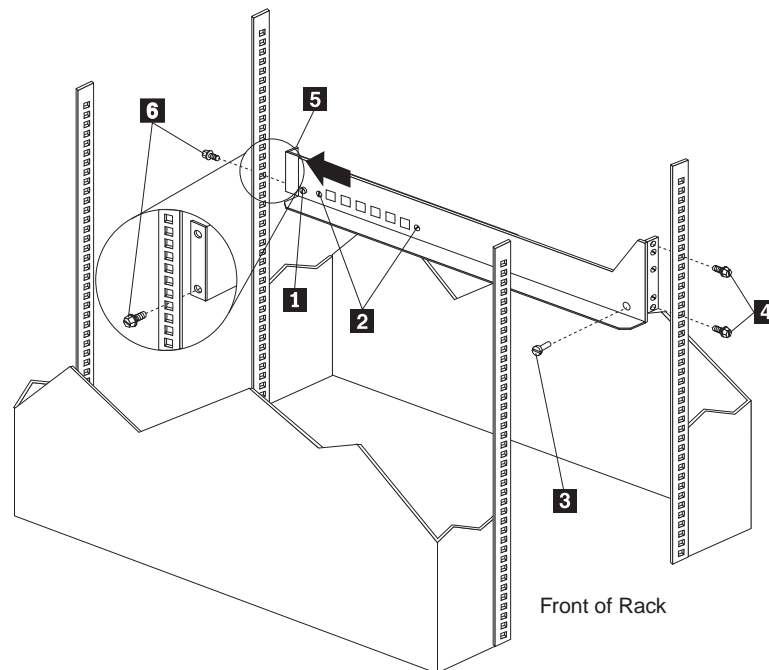

Figure 4. Aligning the front of the rails to the rack
- g. Slide the rear rail assembly **5** (shown in Figure 4) toward you until it makes contact with the rack.
- h. Install two of the hex-head screws **6** (shown in Figure 4) in the top and bottom positions, starting with the top rear on each side.